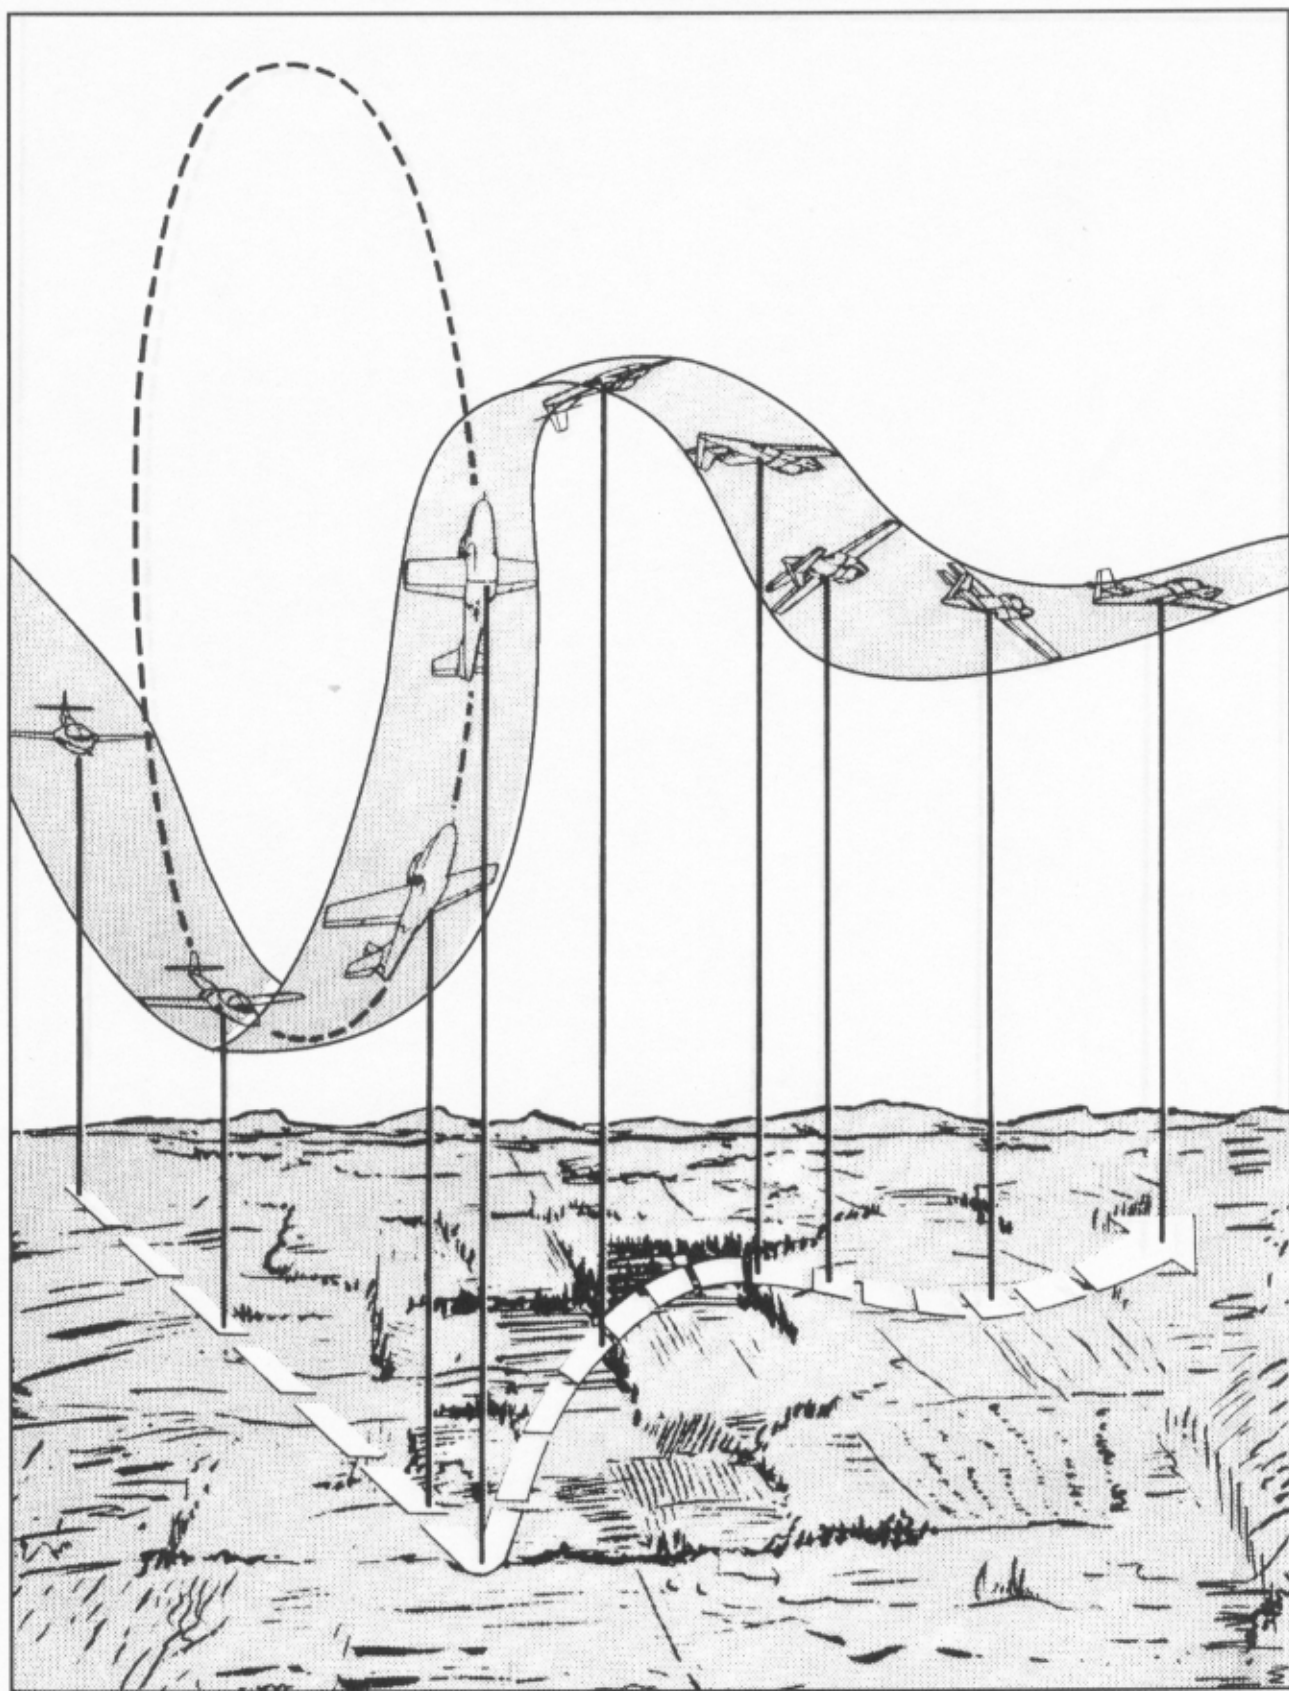

Figure 5.4. Nose-High Recovery.
5.11.1. The objective of the nose-high recovery is to fly the aircraft to level flight as soon as possible without stalling. To do this, adjust power to military and initiate a coordinated roll with back pressure to bring the nose of the aircraft down to the nearest horizon. Depending on the initial airspeed and aircraft attitude, a wing-level, inverted attitude may be reached. As the nose approaches the horizon, roll to an upright attitude (figure 5.4). Depending on the airspeed, you may need to delay